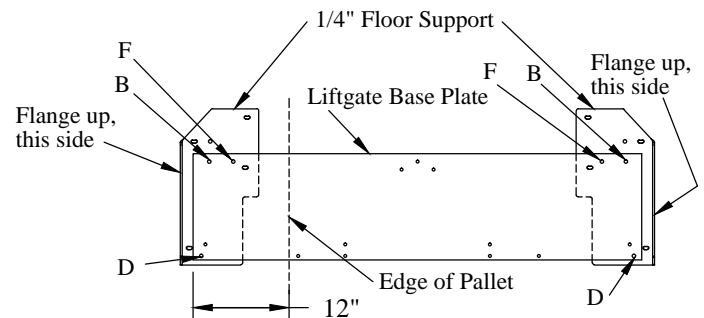

Figure 9: Floor support locations (top view).
3. **Lower** the liftgate onto the pallet with 12" of one side extending beyond the pallet (Figure 9). Keep the fork truck engaged with the lifting angle of the liftgate.